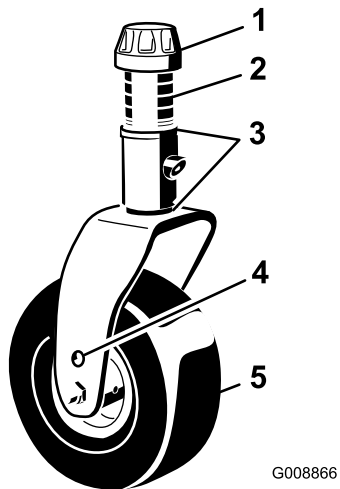
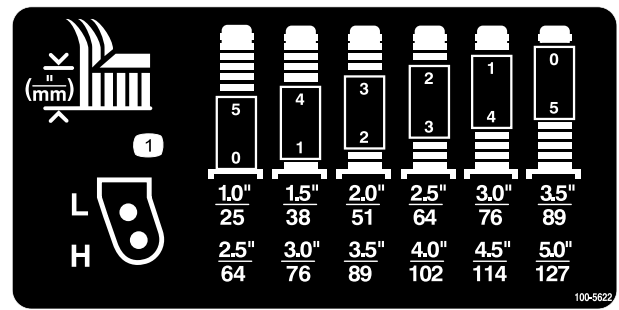

Figure 7
Figure 8
2. Position the castor wheel axles in the same holes in both castor forks. Refer to Figure 7 & Figure 8 to determine the correct holes for the setting.
3. Remove the tensioning cap from the spindle shaft (Figure 7) and slide the spindle out of the castor arm. Put the 2 shims (1/8 inch) onto the spindle shaft as they were originally installed. These shims are required to achieve a level across the entire width of the cutting units. Slide the appropriate number of 1/2 inch spacers onto the spindle shaft to get the desired height-of-cut; then slide the washer onto the shaft.
Refer to Figure 7 & Figure 8 to determine the combinations of spacers for the setting.